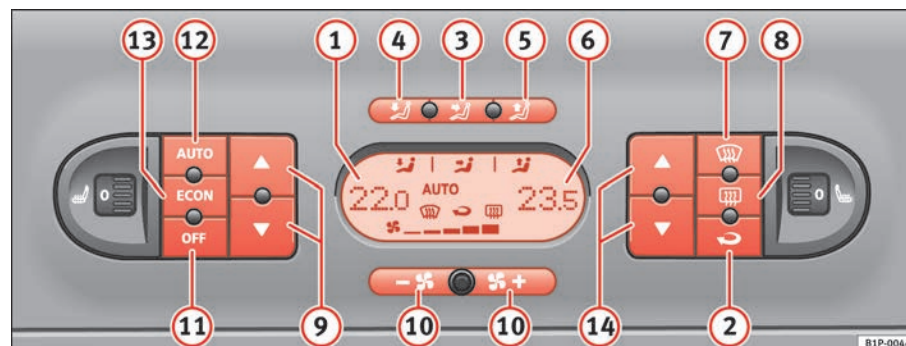

Fig. 111 On the dash panel: 2C Climatronic controls ▶
- Press the temperature control buttons ⇒ page 147, fig. 111 ⑨ or ⑭ in order to adjust the temperature on the left hand side or the right hand side respectively.
- Press the button  ⇒ page 147, fig. 111. “AUTO” is shown on the display. ▶